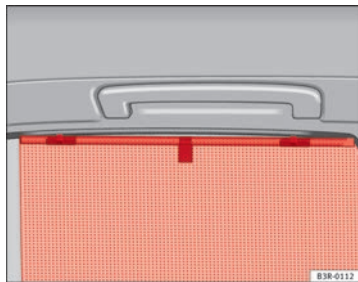

Fig. 99 Sun blind extended to cover rear side window
- Pull out the blind and hook it into the hooks at the top of the door frame ⇒ Fig. 99.